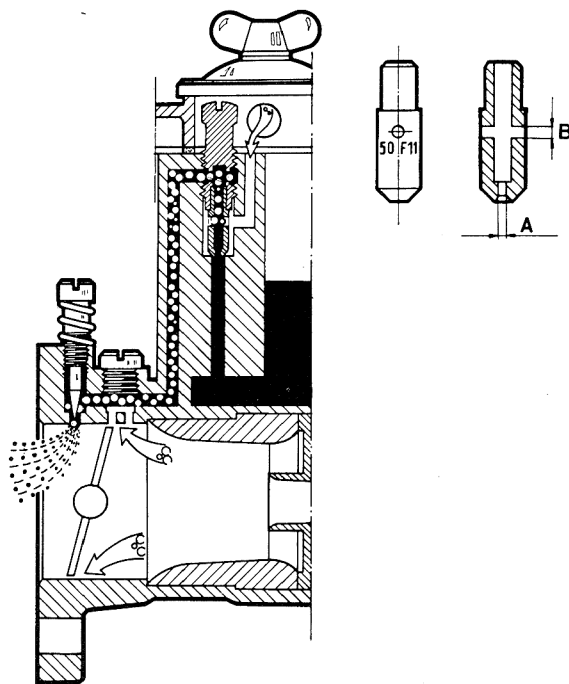
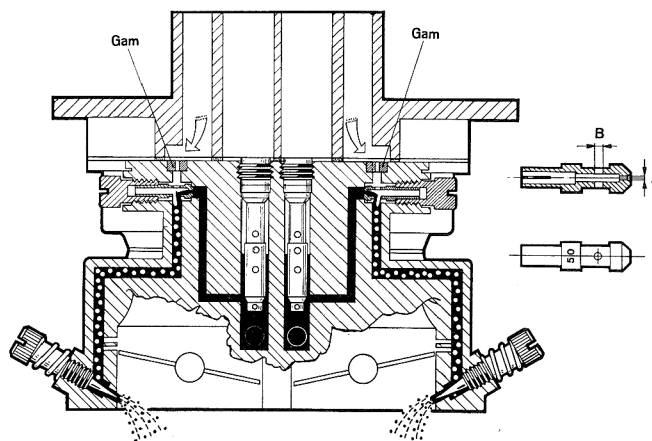

FIG. 37
FIG. 38
6) Idle jet - Figs 37 and 38
Two widely used arrangements are illustrated in **Figs. 37** and **38**: the first shows a DCOE series
Idle speed circuit feed - Generally, in applications where a single carburettor barrel feeds two or more engine cylinders, the idle speed circuit receives its fuel supply from the main well, in a location between the main fuel jet and the lower end of the emulsion tube (**Fig. 38**). In sports engine applications where each carburettor barrel feeds a single cylinder, the part-load operation mixture tends to be weak; thus, the idle speed circuit receives its fuel supply directly from the constant-level float chamber (**Fig. 37**), in the majority of cases. In some applications, designers prefer a compound system in which the idle jet is fed simultaneously from both the float chamber and the well.